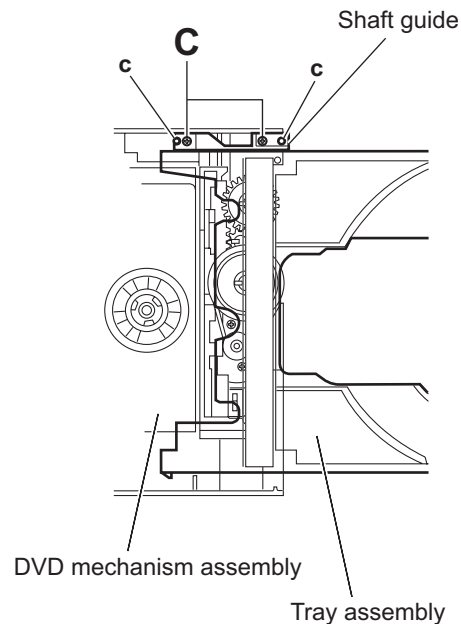

Fig.4
- (2) From the top side of the DVD mechanism assembly, remove the two screws **C** attaching the tray assembly. (See Fig.4.)
- (3) Remove the bushing of the tray assembly from the projections **c** on the DVD mechanism assembly and take out the tray assembly in an upward direction. (See Fig.4.)